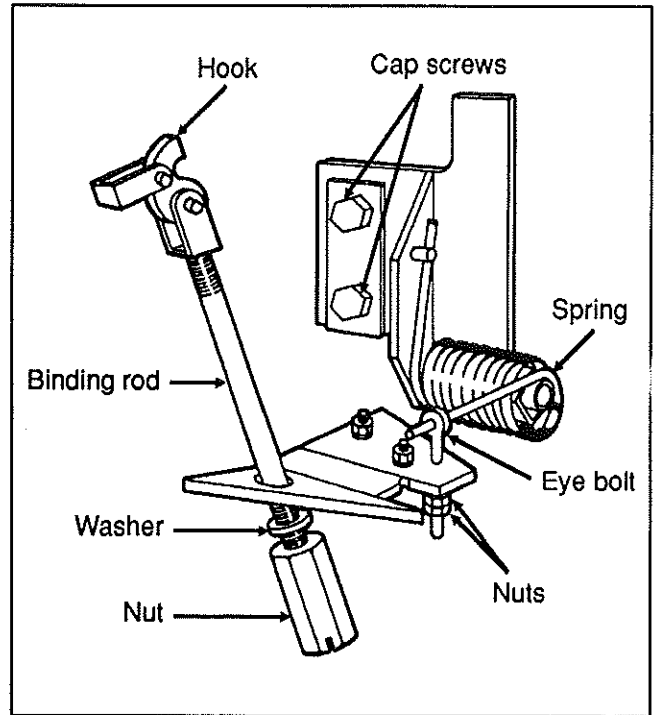

Fig. 3
2. Hold bumper and push binding rods up to remove the 2 binding rod hooks from their respective attaching points. See figure 3.